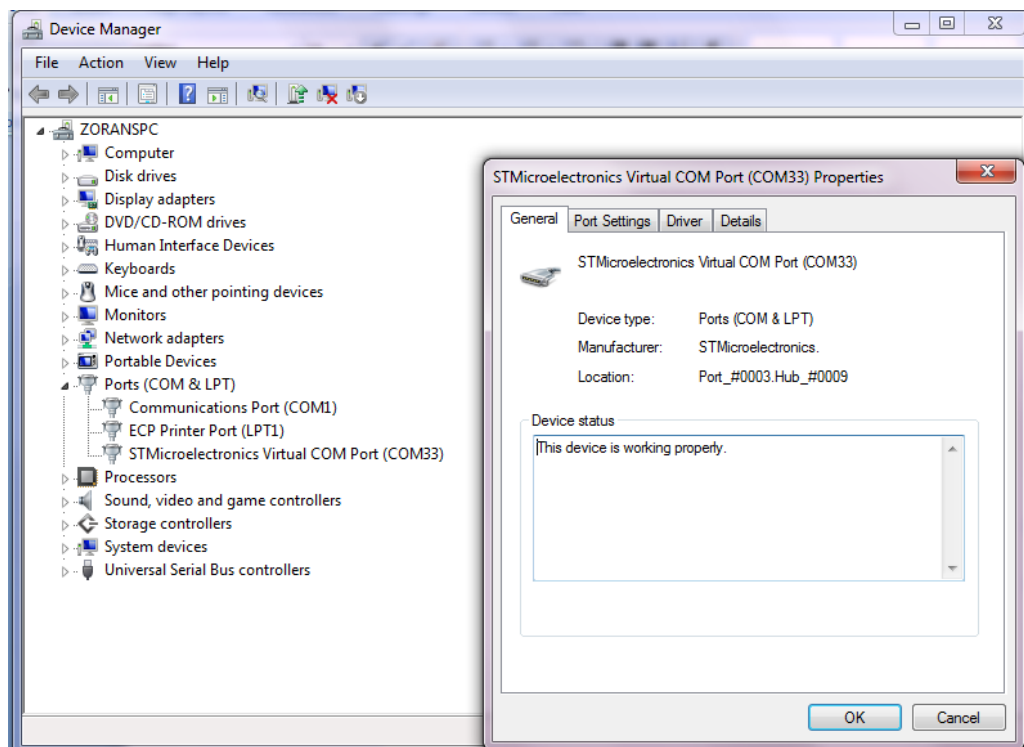
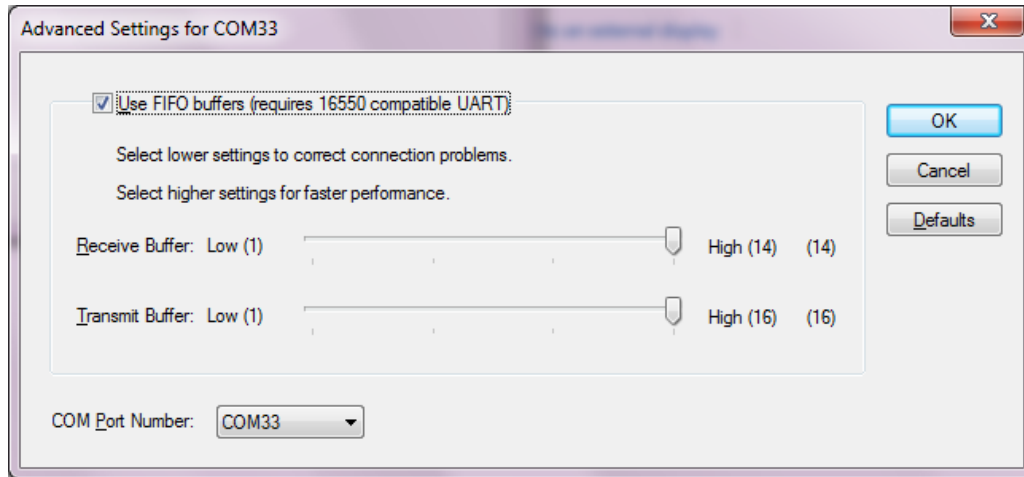

Figure 3 - COM port configuration - properties window
Figure 4 - Advanced settings for COM port
**Note: the virtual com port number needs to be between 3 and 49. Please change the port number through Control Panel\Hardware and Sound\Device Manager, select Ports and Properties, then \Port Settings – Advanced, as shown in Figure 3 and Figure 4.**